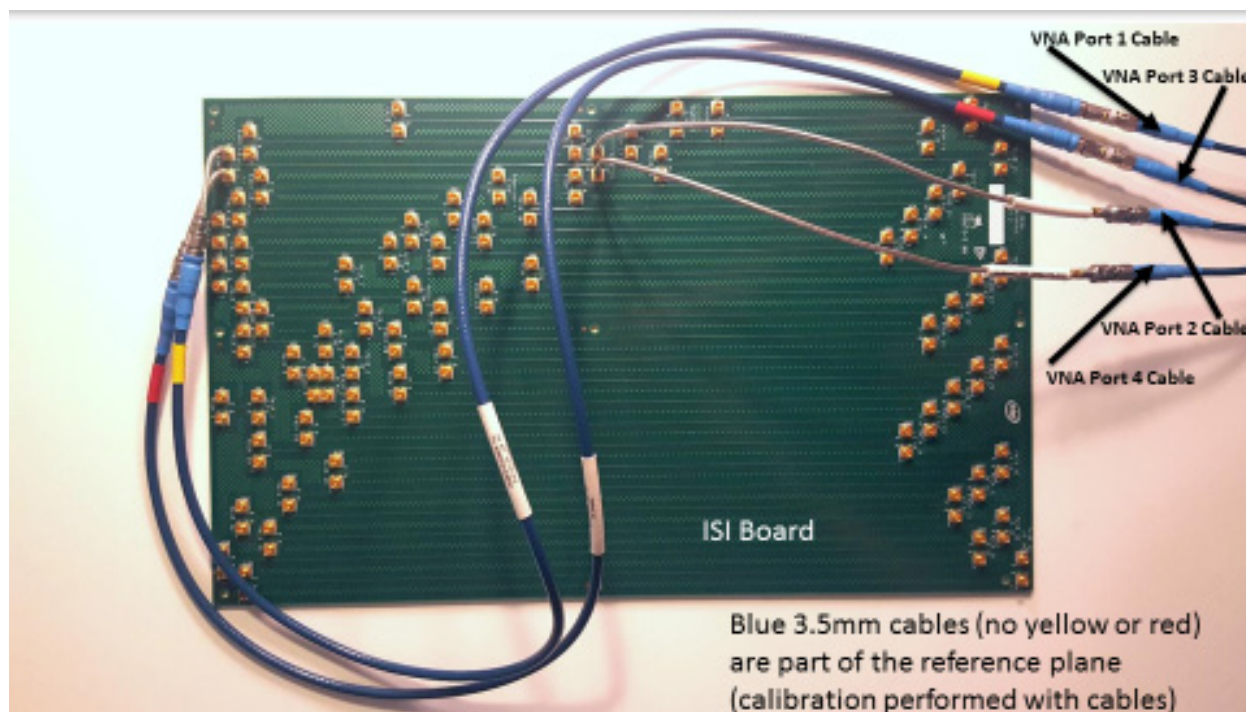

Figure 16. System TX = (Variable ISI with Cables)
- ❑ ~~Add-in Card-Add-in Card~~ calibration CLB side (8 dB fixed), see Figure 16